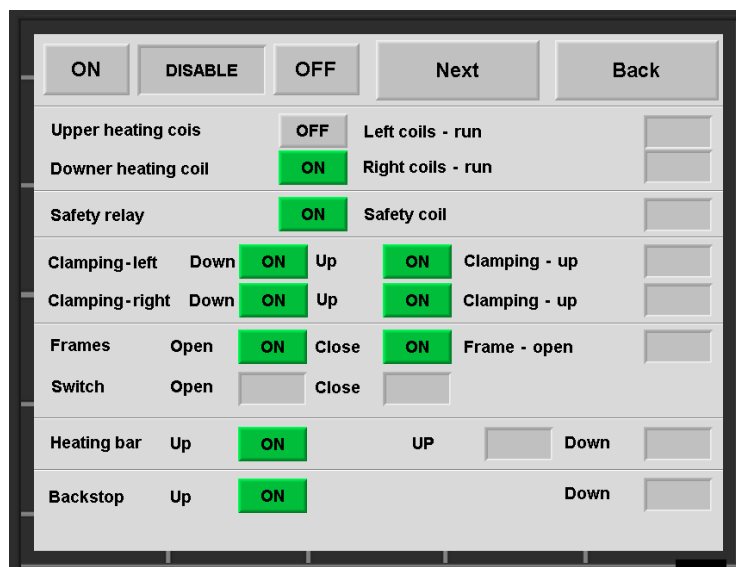

Fig. 12
- Entering the PASSWORD and pressing the INPUTS/OUTPUTS button opens the screen for the check of input and output signals to/from the control PLC (Fig. 12). Password for access to the service menu is at the manufacturer's service technician and during normal operation of the machine it is not necessary to enter the service menus.